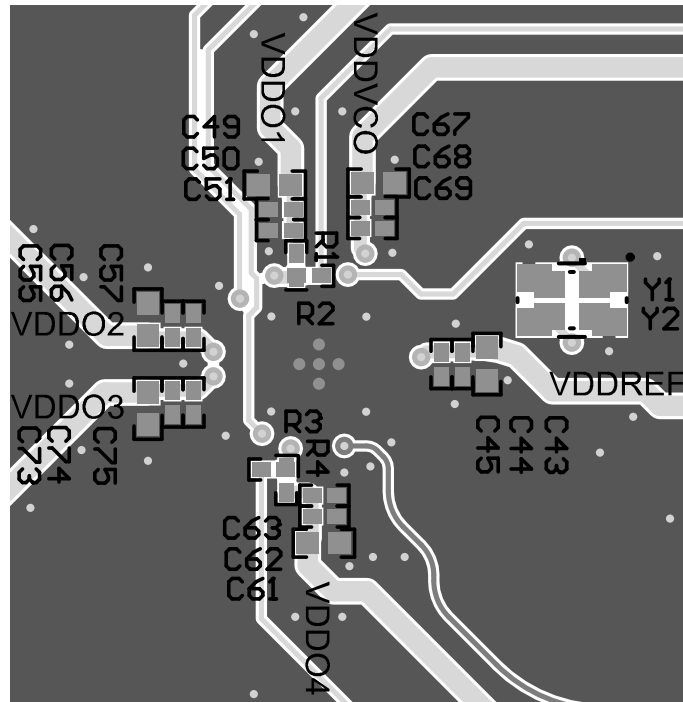

Figure 4. Layout Example, Bottom Layer
- Isolate the crystal area, connect the GND pads of the crystal package and flood the adjacent area. Figure 4 shows a foot print which supports multiple crystal sizes.
- Place decoupling capacitors with small capacitance values very close to the supply pins. Try to place them very close on the same layer or directly on the backside layer. Larger values can be placed more far away. Figure 4 shows three decoupling capacitors close to the device. Ferrite beads are recommended to isolate the different frequency domains and the VDD_VCO domain.